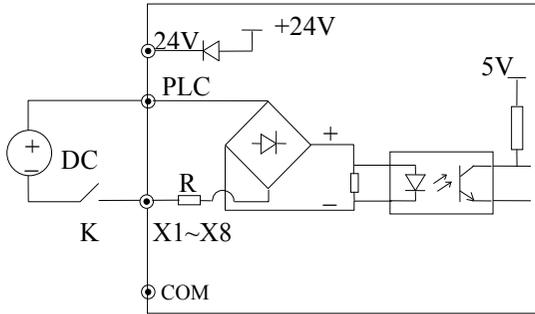

Fig. 2-21 Use an external supply(in 3R75GB/31R5PB~3004GB/35R5PB only X1~X5)
2)If an external power supply is used, then use the Wiring shown in Figure 2-21 (Attention: be sure to disconnect the cable JP1 between PLC and 24V for models of 3R75GB/31R5PB~3004GB/35R5PB; and disconnect the wiring cable between PLC and 24V for models of 35R5GB/37R5PB~3500G).